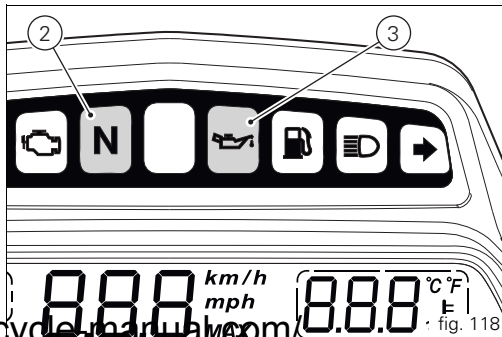

fig. 118
After this control, only the green light (2, fig. 118) and the red light (3) must remain on.